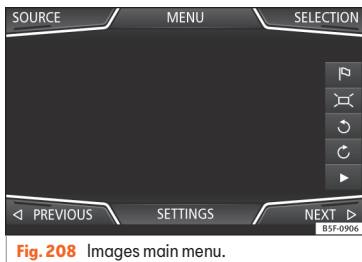

Fig. 208 Images main menu.
- Press the **SOURCE** >>> **Fig. 208** function button and select the data storage device where the images are stored.